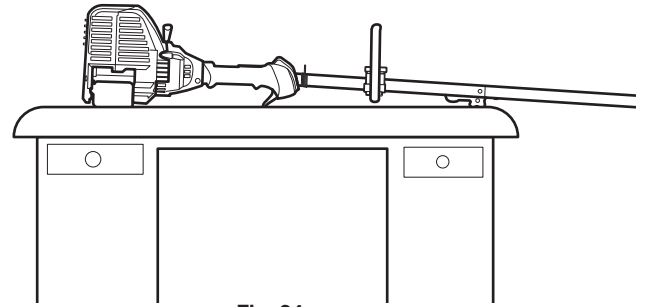

Fig. 34
2. **Set the unit on a flat, level surface**, such as a workbench or table. The cutting head shield should hang over the edge so that the engine is level (Fig. 34).